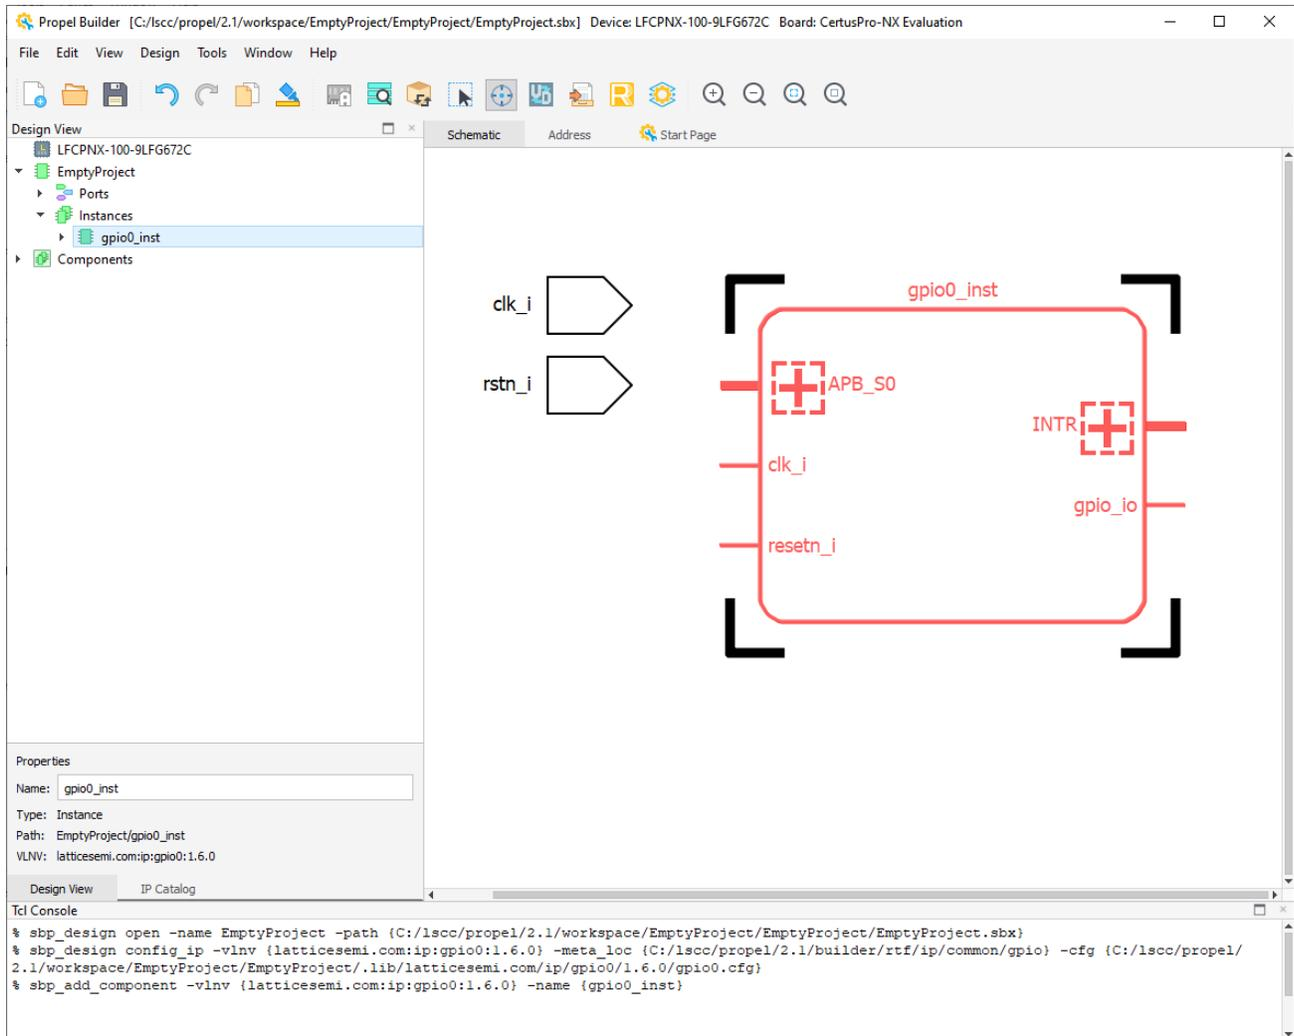

Figure 2.37. Locate Objects
- Select the object in the List view of the Design View. The selected object is in the center of the Schematic View (Figure 2.37).